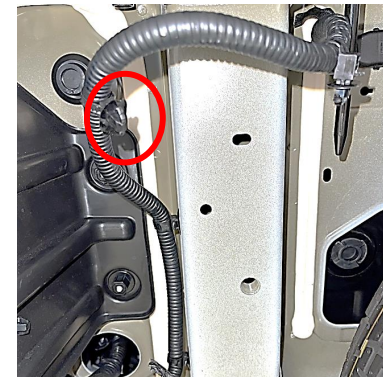

Figure 2
- Lower exhaust**– Using an exhaust hanger removal tool, lower exhaust muffler by removing (3) rearmost rubber hangers. A spray of lubricant or soapy water on rubber hangers makes them slide off metal pins more easily. **NOTE: Be sure that exhaust is properly supported before removing rubber hangers.**
- Remove electric harness clip** – Using a plastic trim tool, remove (1) electric harness clip from the bottom of frame rail on driver side, see **Figure 2**.